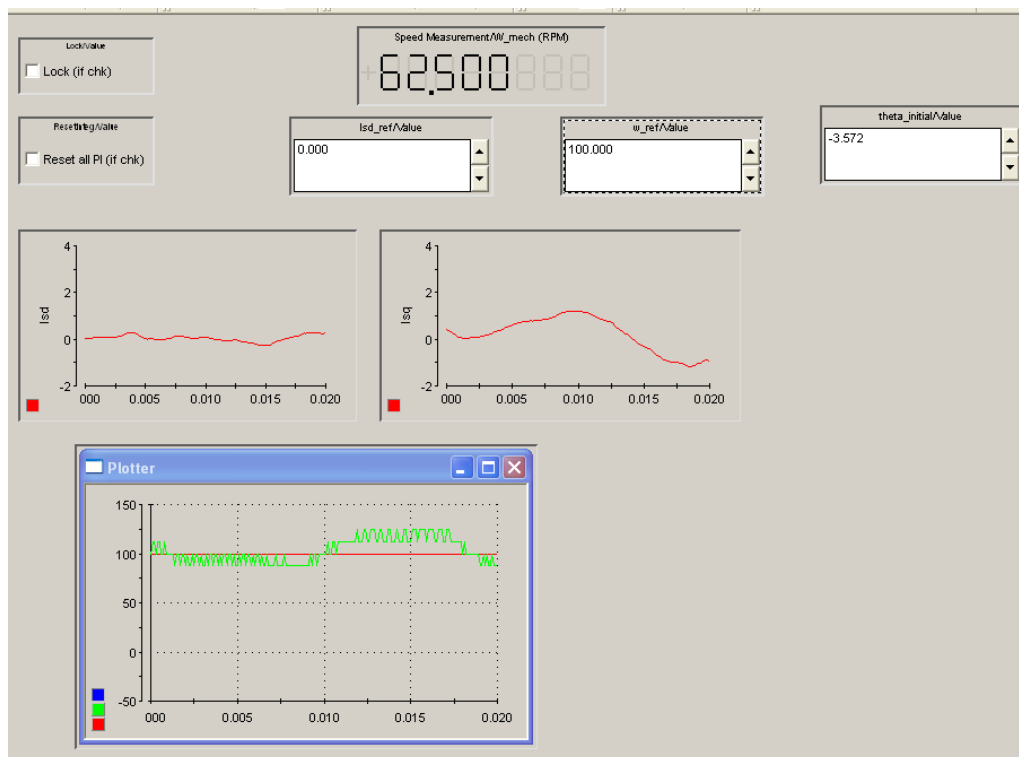

Figure 7.9: Screen Shot of dSpace control desk.
9. For example see the screenshot of dSpace control desk in figure 7.9.